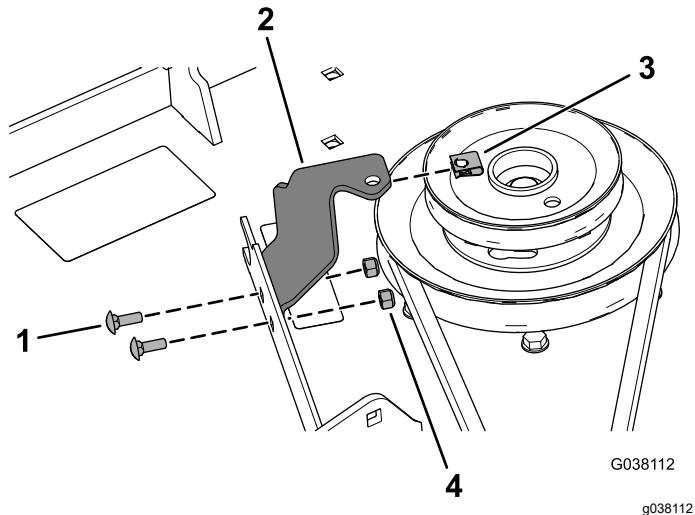

Figure 24
12. Install the belt-cover bracket to the mower deck using 2 carriage bolts (1/4 x 3/4 inch) and 2 locknuts (1/4 inch) as shown in Figure 24.
13. Install the speed nut onto the belt-cover bracket (Figure 24).